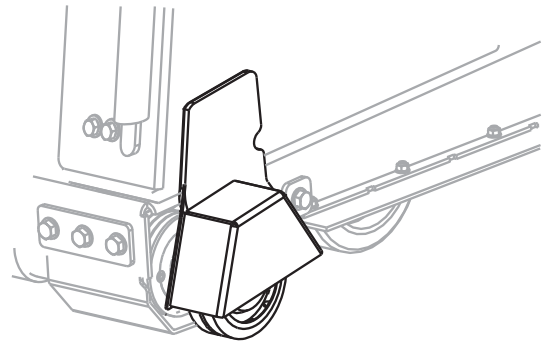

Figure 18. The Flange Guard Installed
1. Slide the flange guard onto the guard mounting tab on the frame (Figure 18).